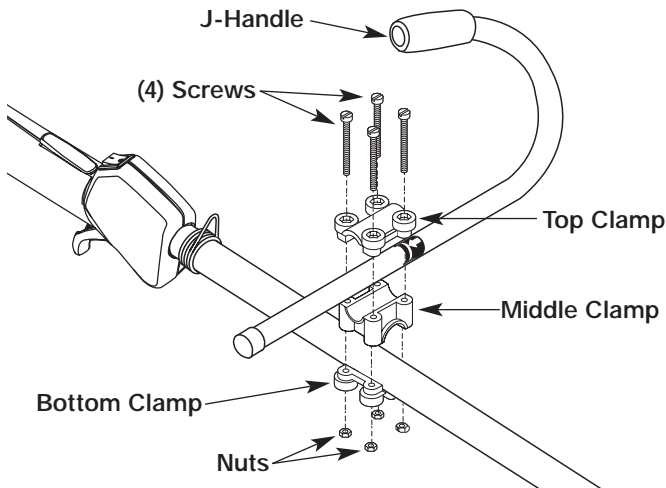

FIGURE 1
2. Place the J-handle between the top and middle clamp pieces, Figure 1.